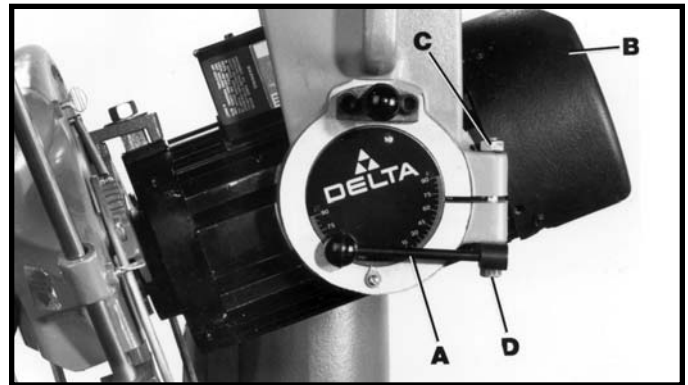

Fig. 38
If the bevel clamp handle (A) Fig. 38, does not securely lock the motor when the handle is in the locked position, as shown, an adjustment can be made as follows:
2. Place motor (B) Fig. 38, in a bevel cutting position between positive stops, as shown, and place bevel clamp handle (A) in the locked position, as shown.
3. Loosen nut (C) Fig. 38, and tighten bolt (D) until motor is locked. **CAUTION: DO NOT OVER TIGHTEN BOLT (D).**
4. While holding bolt (D) Fig. 38, tighten lock nut (C).